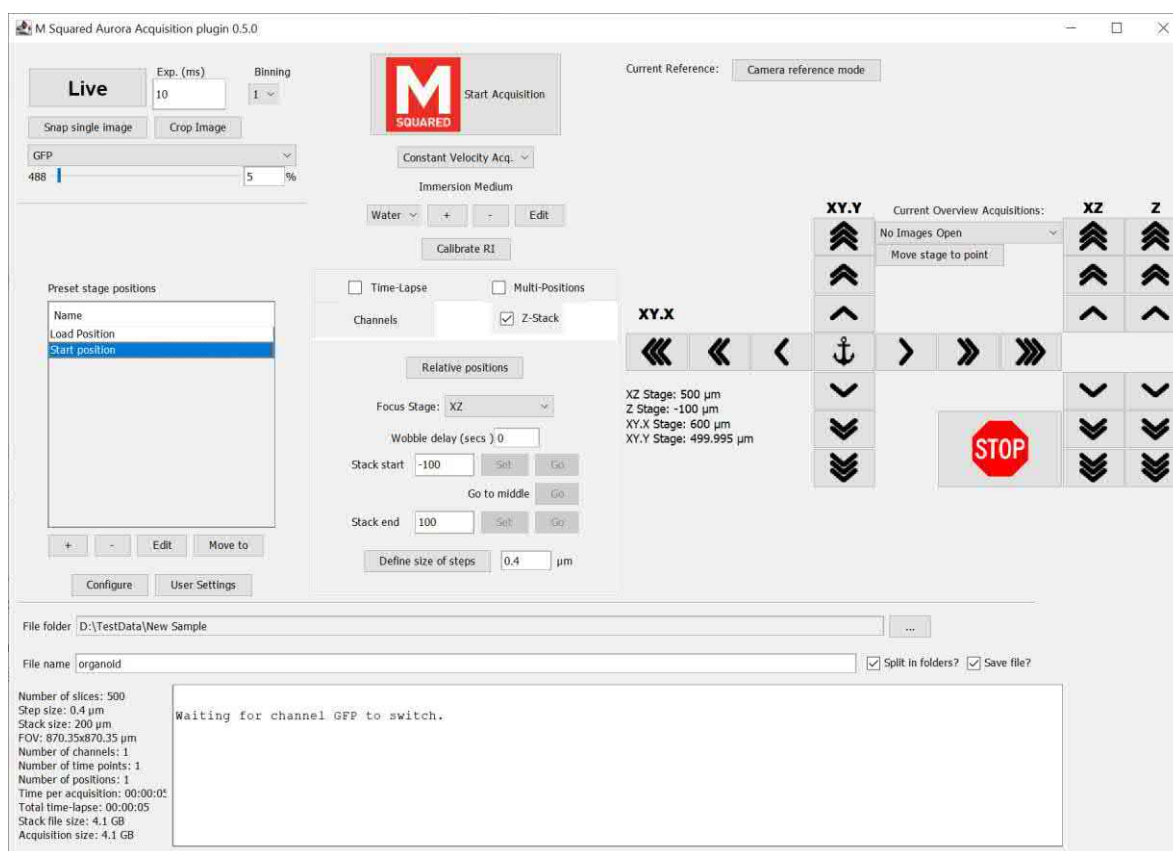

Figure 3-1 The M Squared Cubes Acquisition GUI
- The software will ask for a configuration file: just press OK. The software will then automatically connect all equipment to Micro-Manager and open the M Squared interface for image acquisition (Figure 3-1).
Once open, three windows will be displayed: The Aurora™ Acquisition plugin (Figure 3-1), a Micro-Manager window, and an ImageJ control bar:
Increment amount can be set using the "User Settings" button in the lower left of the plugin window (Figure 3-1). The stop button can be used to stop all stage movement in an emergency.